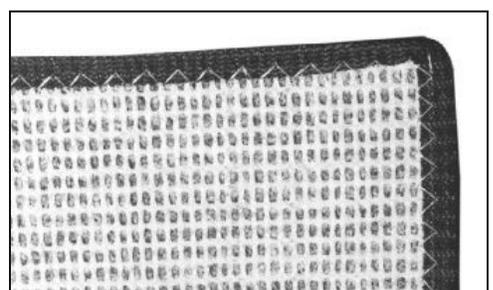

FIG. 22
5. Drop feed roller and continue sewing. See Figure 22.